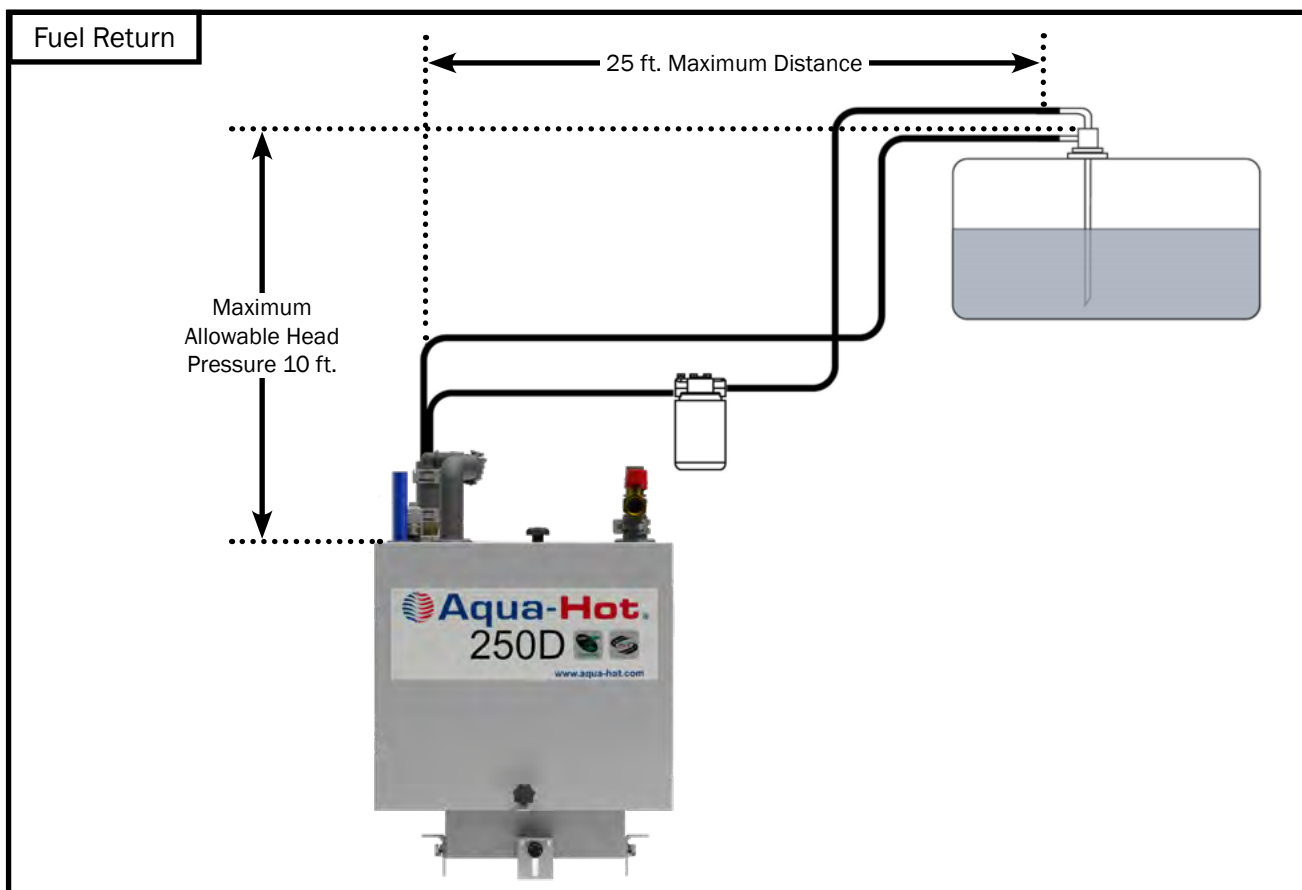

Figure 35
- The maximum allowable head pressure is 10 feet. Reference Figure 35.